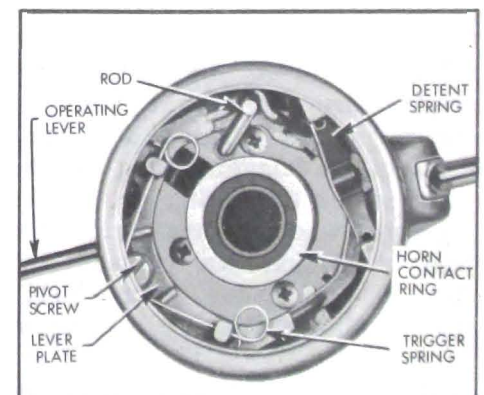
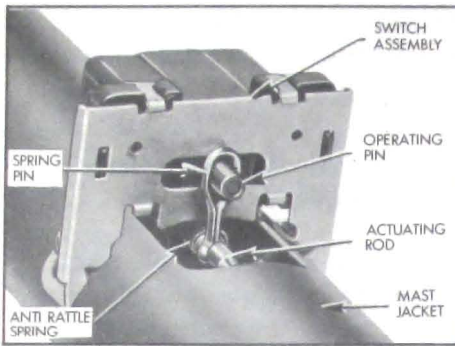

Figure 10-58—Top View of Direction Signal Switch Actuator
Figure 10-59—Direction Signal Switch Installation—Bottom View
The upper end of the actuating rod is crank shaped and fits in a slot in the lever plate. See Figure 10-58. The lower end of rod is attached to the signal switch by a spring pin which is installed around switch operating pin and through hole in rod. An anti rattle spring located on rod between spring pin and the positioning tab which is part of mast jacket, hold the rod in place. See Figure 10-59.
Also check to see if the spring pin that retains actuating rod to switch pin is properly installed or broken. See Figure 10-59.
2. Loosen two switch mounting screws and move switch sideways on mast jacket until operating pin projecting from switch is centered. See Figure 10-59. Tighten switch mounting screws.
4. Remove direction switch. Remove spring pin and spring from lower end of actuator rod and pull rod out of actuator. See Figures 10-58 and 10-59.